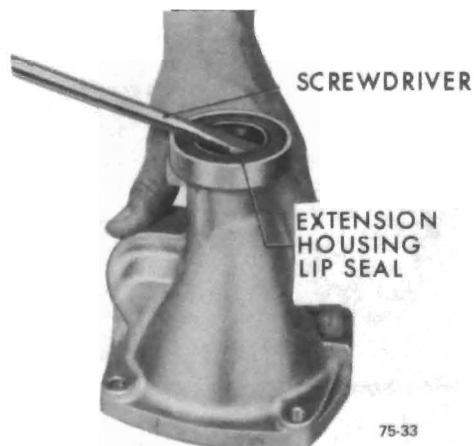

Figure 75-59
1. Remove extension housing lip seal using screwdriver. See Figure 75-59.